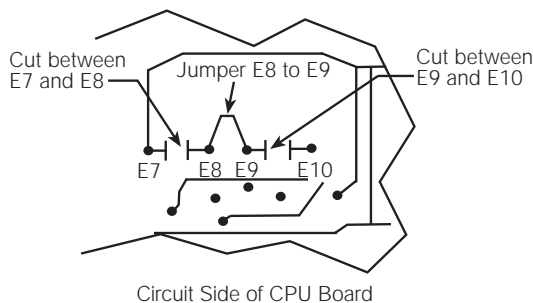

Figure 2-3. Circuit Trace Setup
4. Cut circuit traces between E7/E8 and E9/E10 as indicated with a sharp instrument like a razor blade or an x-acto knife. Refer to Figure 2-3.